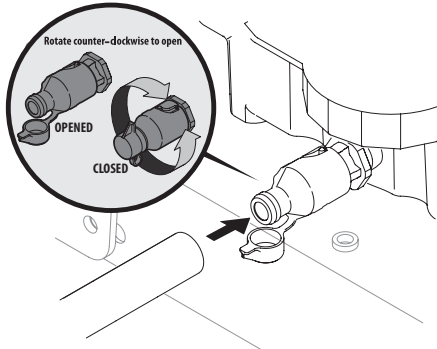

Figure 25
4. Open the protective cap on the end of the oil drain valve to expose the drain port. See Figure 25.